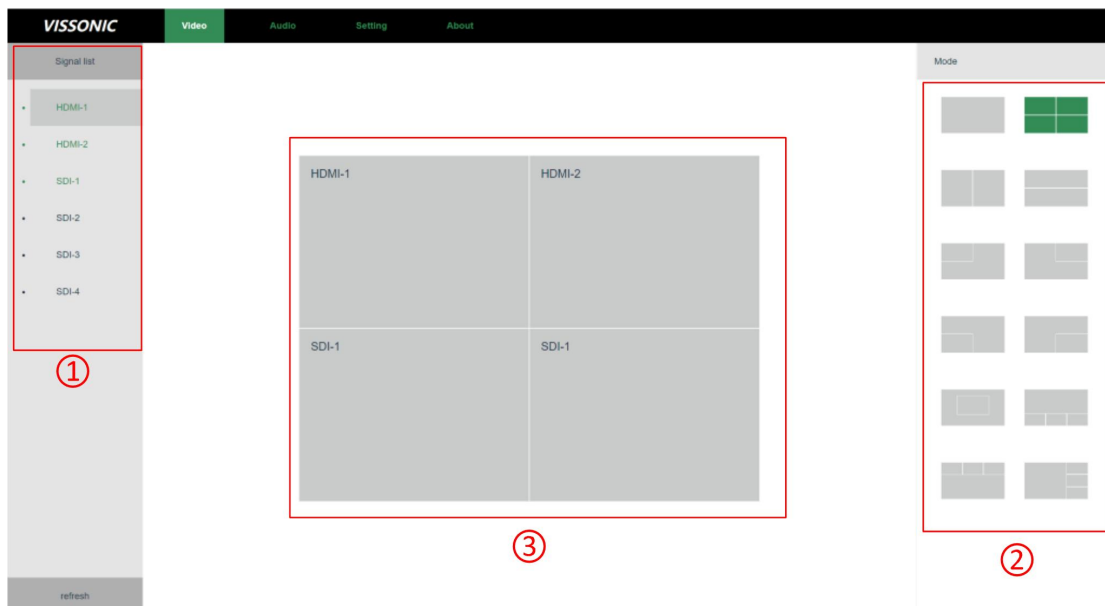

Figure 6.2 Screen split
3. Log in to the web page, enter the IP address 192.168.10.189, and if you can log in to the interface as shown in Figure 6.2, it means that the connection is successful. Click Video and Audio to control the screen segmentation and audio switching of the camera tracking controller.